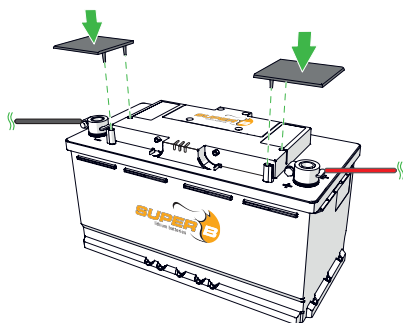

Figure 12. Place the accessory caps over the terminals. Accessory caps are not provided by Super B
5. Place the accessory caps over the terminals. (Figure 12)